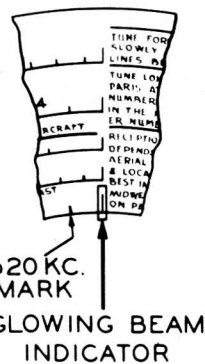

Fig. 6. Dial Calibration
2. Turn the tuning condenser control until the indicator is on the 520 K.C. mark. See Fig. 6.